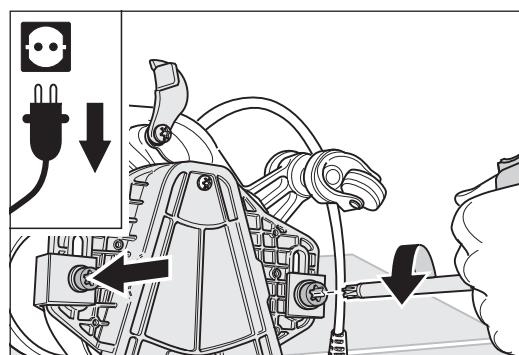

Fig. 39 Remove the two screws which connect the attachment, along with the washers and the guide angles.
- 5 Use the universal spanner to remove the two screws which connect the attachment, along with the washers and the guide angles (fig. 39). Place these parts to the side.